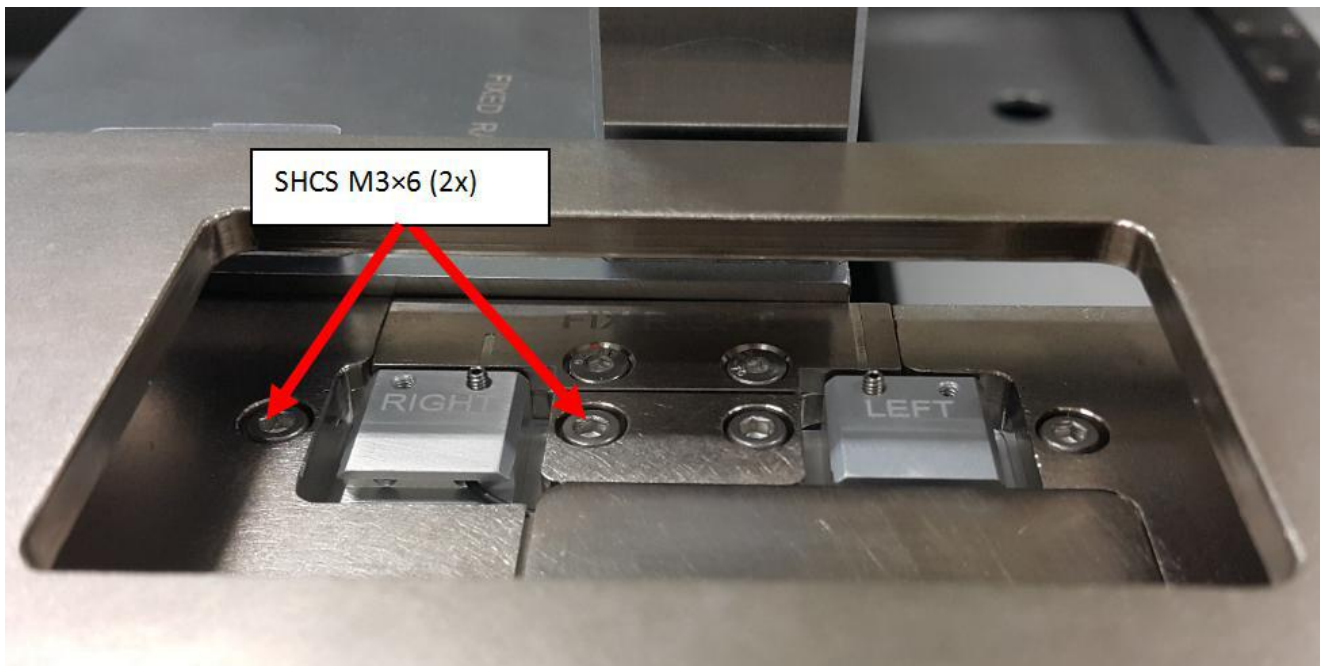

Figure 26 SHCS M3x6 (2x)
4. Tighten SHCS M3×6 (2x) as shown in Figure 26.